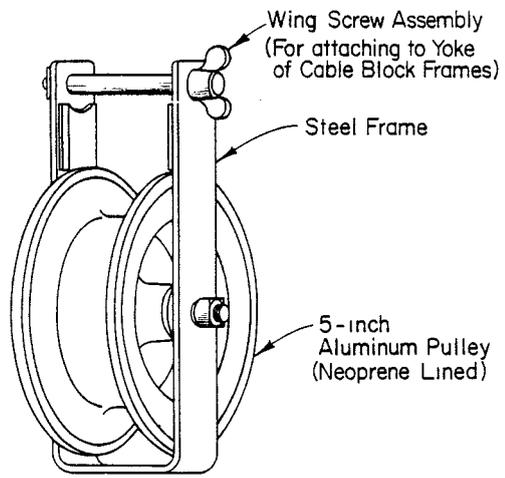

Fig. 1—E Cable Block
3.01 *E Cable Block:* The E cable block (Fig. 1) is used with B, C, D, E, and F cable block frames. The pulley of the E cable block should be clean and rotate freely. When necessary, remove the pulley from the support, clean the bearings, and lubricate with a light cup grease. Should the neoprene wear off the pulleys, the blocks should be returned for repair in accordance with local instructions.